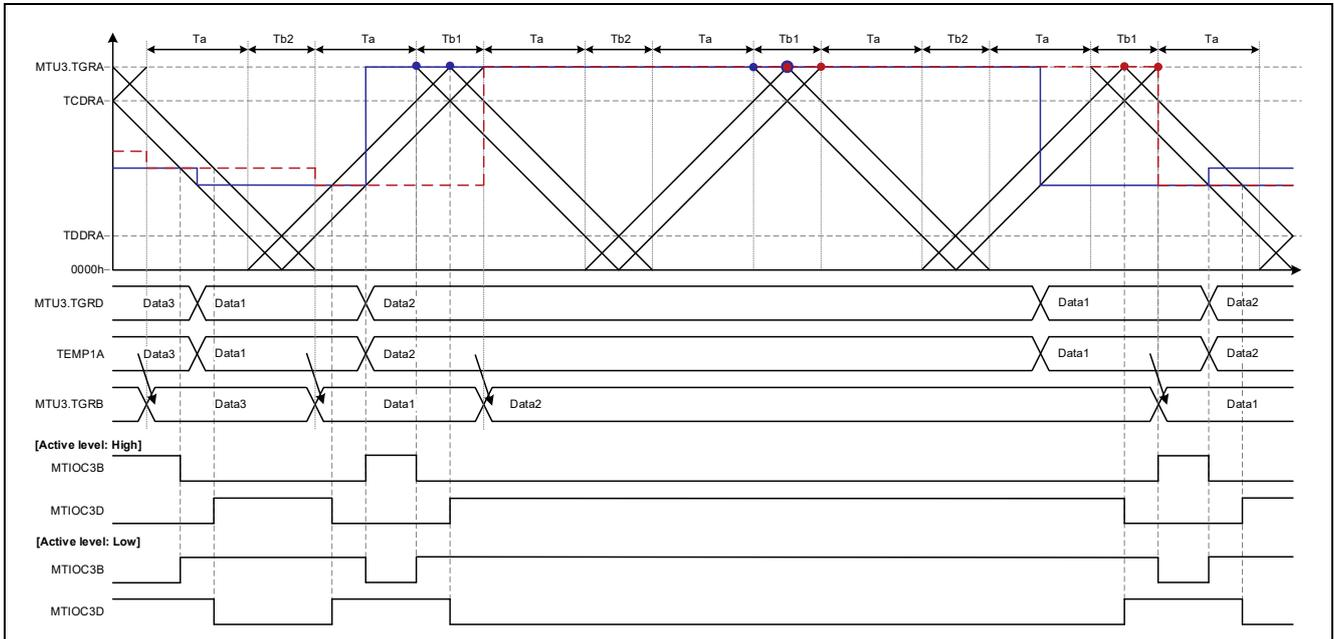

Figure 1.10 Complementary PWM Mode 3 Operation Example
| | Crest | Figure 1.9 | Figure 1.10 | — | — |
Of the 0% and 100% duty cycle waveform output operation examples in each MTU operating mode listed in Table 1.6, Figure 1.3 to Figure 1.10 illustrate the 0% duty cycle output operation examples.
- [Operation example 8] Figure 1.10, Complementary PWM Mode 3, Output Start: Crest, Ta Interval Overwrite
Figure 1.10 shows an operation example of buffer overwrite in the Ta interval in complementary PWM mode 3. Except for the difference in the buffer overwrite timing, the operation is the same as that shown in Figure 1.9.